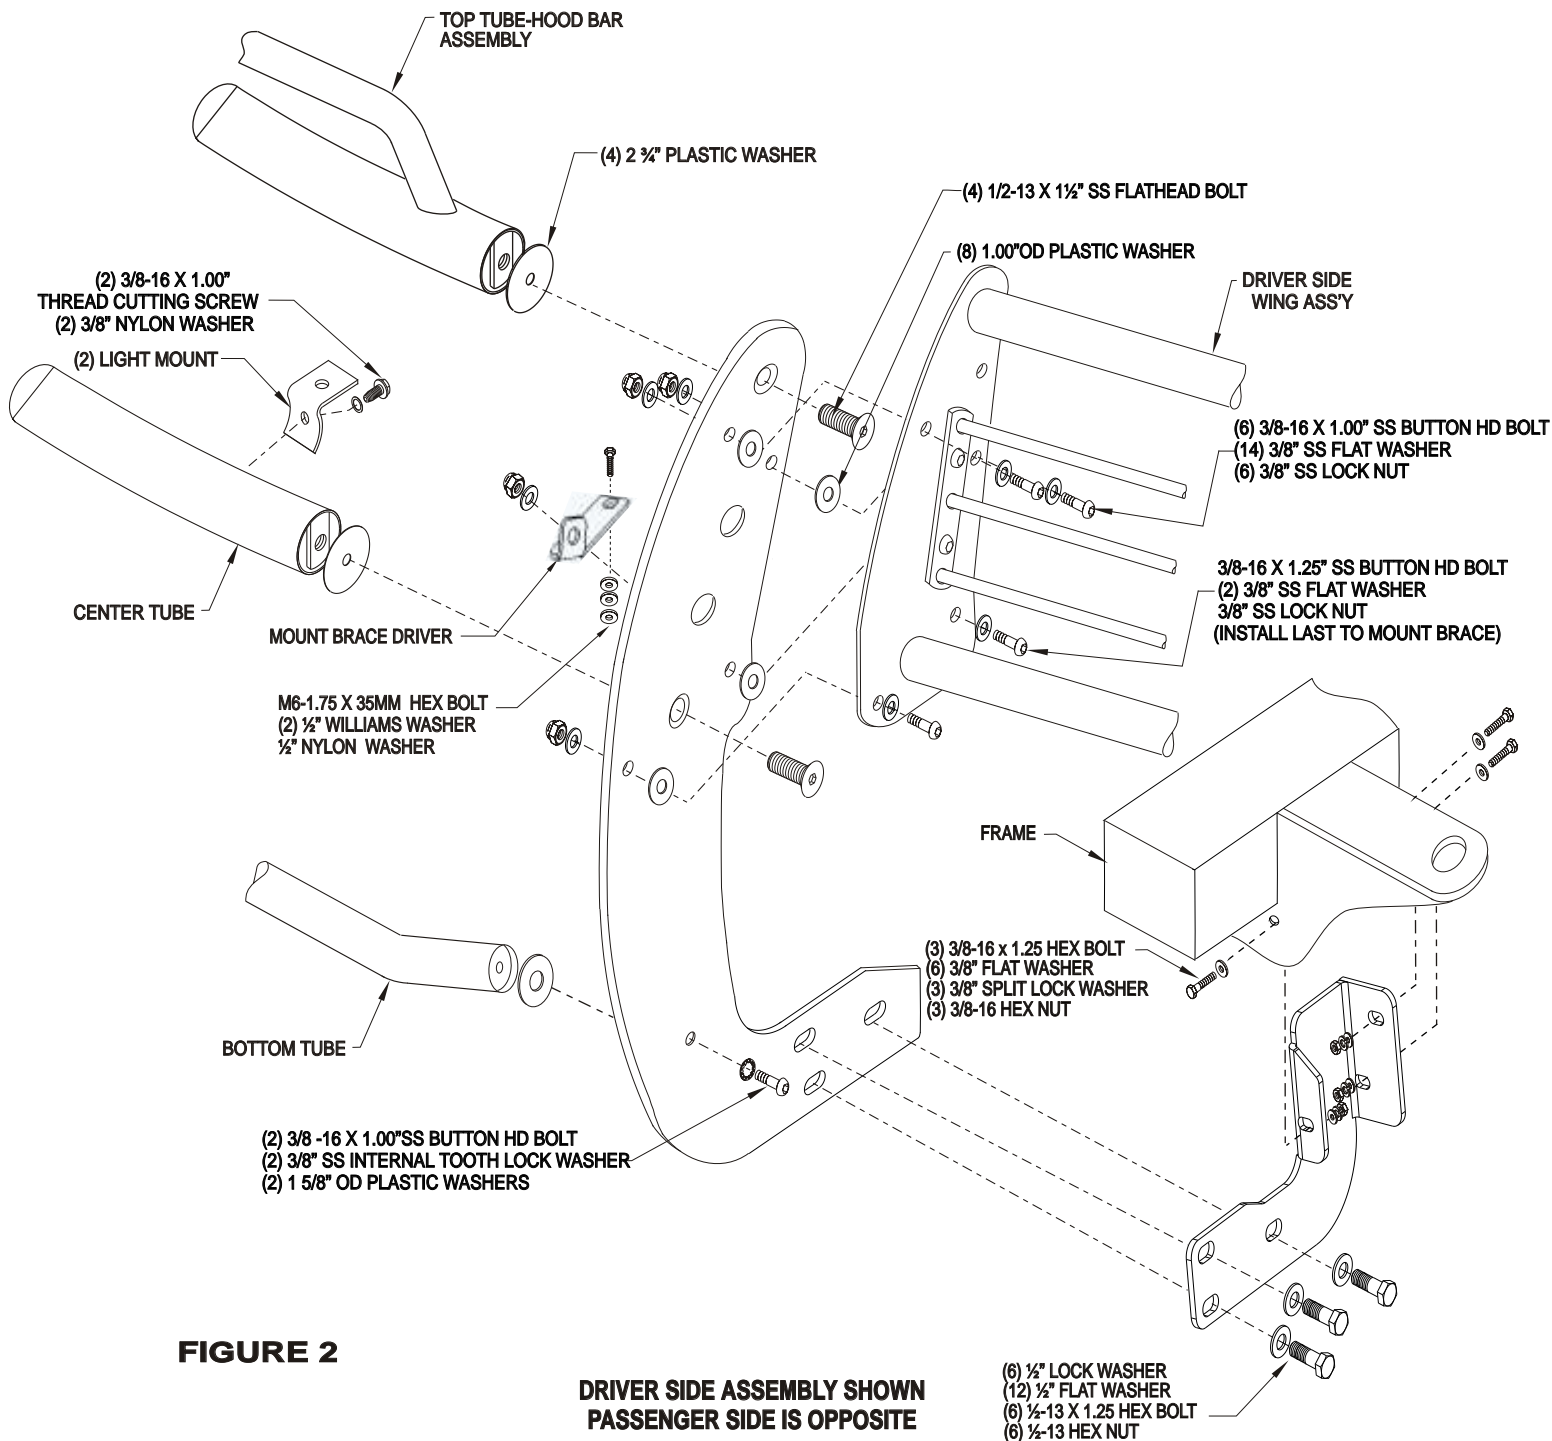

FIGURE 2
- STEP 5. From underneath the front of vehicle, locate the front body mount. Determine passenger and driver side bottom mount brackets. SEE FIGURE 2. Install brackets inside body mount channel with 3/8" bolts. Leave loose.